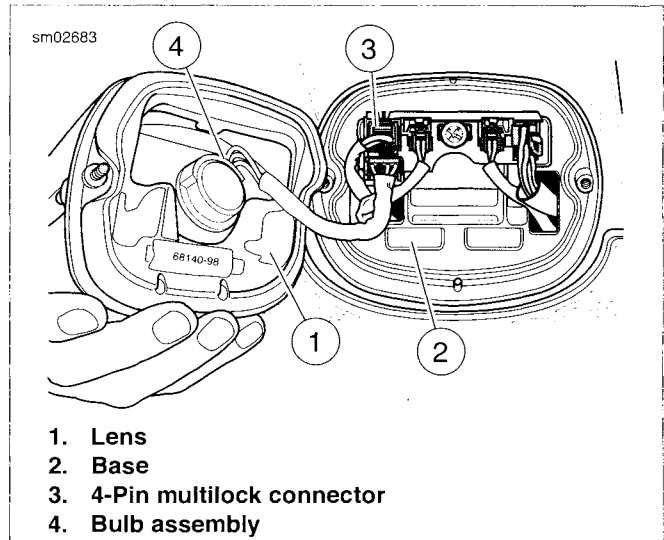

Figure 7-30. Tail Lamp: FLST, FLSTC, FLSTF/B
1. See Figure 7-30. Remove two screws and lens (1) from base.
2. Press locking tab and remove 4-Pin multilock connector (3) from circuit board.